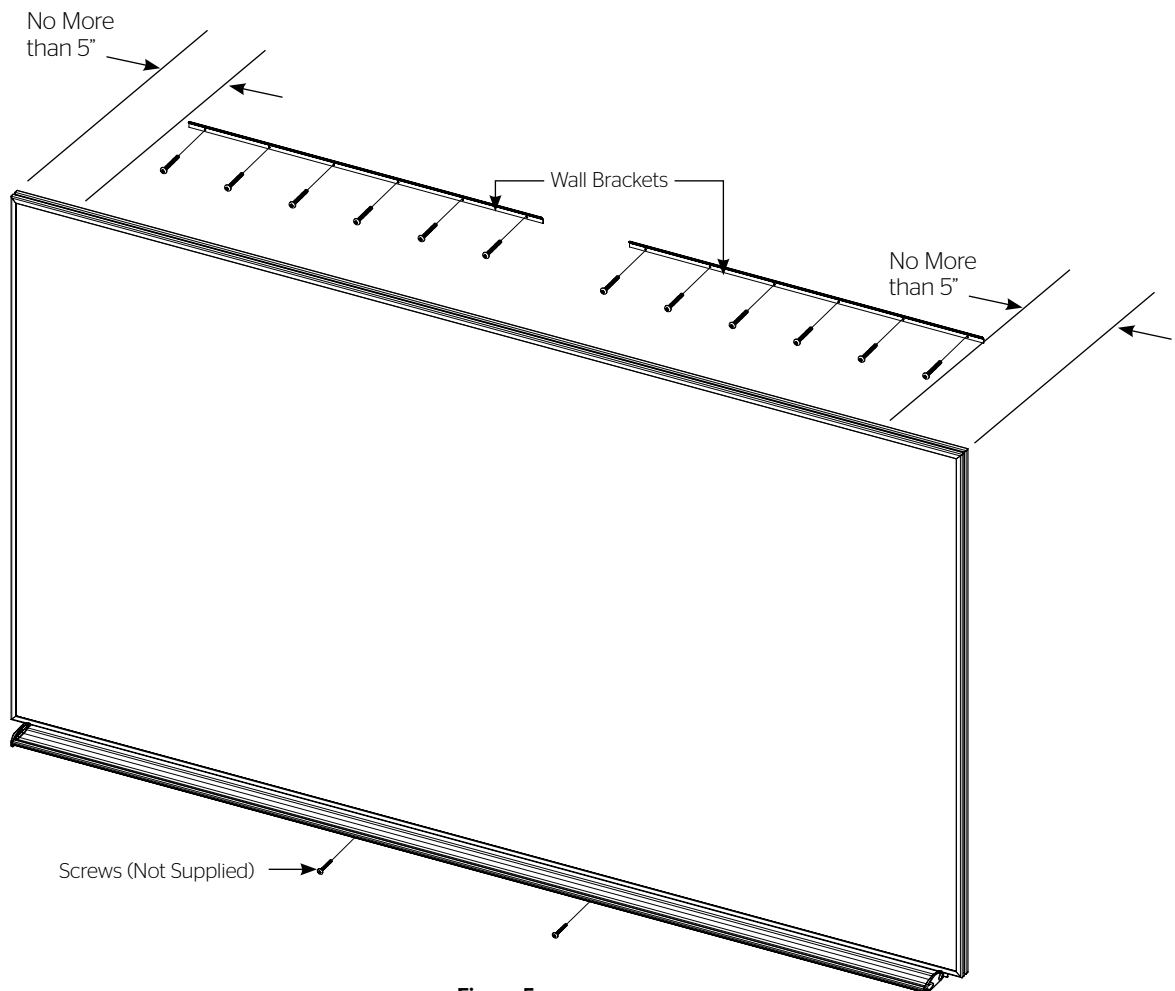

Figure 5
2. This step requires two people. Hang the screen on the wall brackets (Figure 5). There is a lip on the back of the frame that wedges itself into the wall brackets once fully installed.
3. Attach bottom of screen to wall through the mounting holes located under the tray (Figure 5).